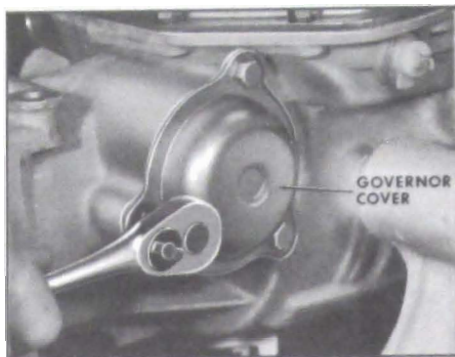

Figure 5-361
2. Install governor gasket and cover to case. Torque bolts to 8-12 ft. lbs. See Figure 5-361.